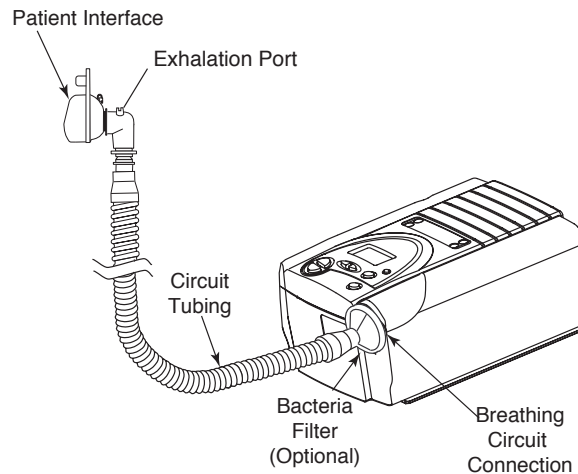

Figure 5-2 An Example of a Typical Circuit
2. If required, connect a bacteria filter to the breathing circuit connection (shown in Figure 5-2), and connect the patient tubing to the outlet of the bacteria filter.
A completed assembly (without humidifier) appears in Figure 5-2.